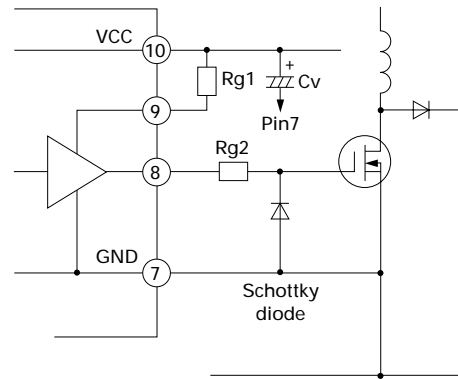

Fig. 8 Output circuit
As Fig. 8 shows, pin 9 is configured as the high power terminal (VC), independent of the IC power terminal (VCC). This pin allows an independent drive resistance when the power MOSFET is ON and OFF. If the drive resistances in the ON and OFF states are $R_{g(on)}$ and $R_{g(off)}$, the following formulas can be used to determine the total gate resistance